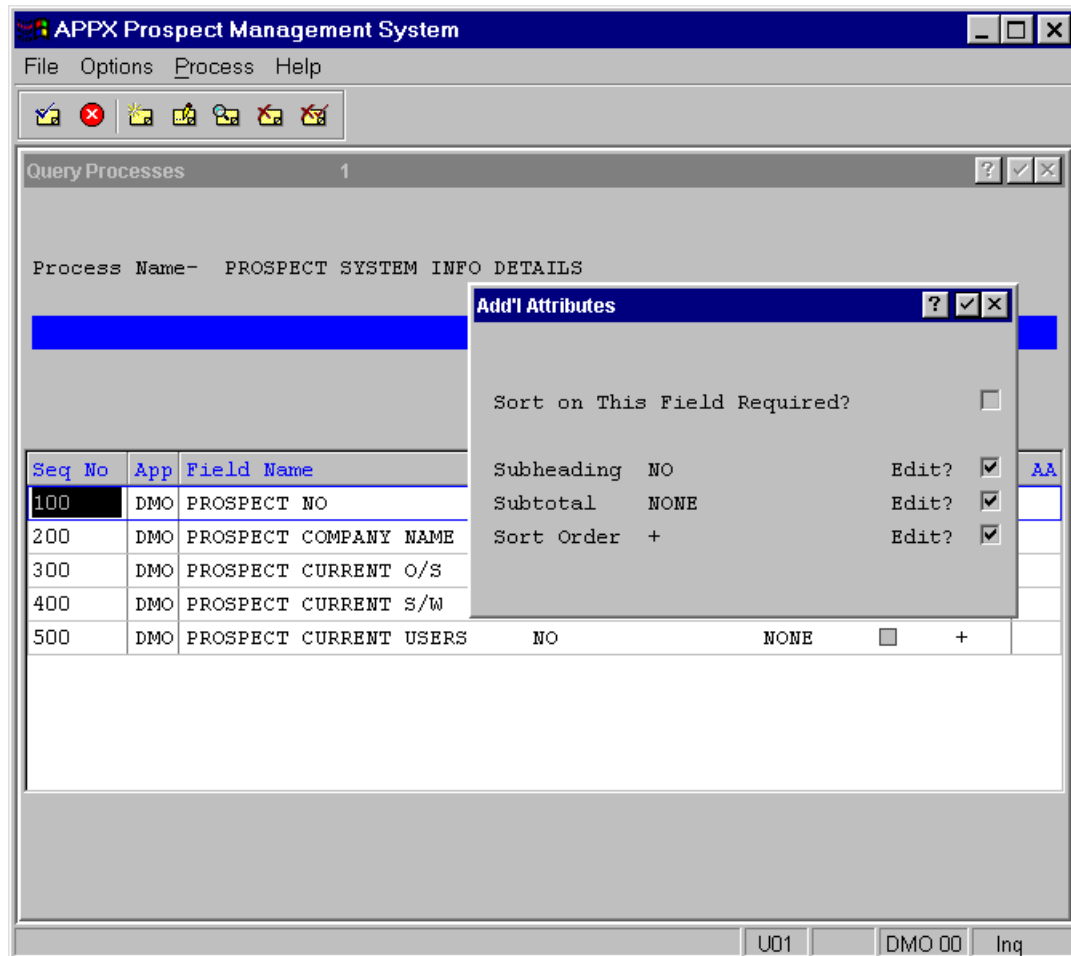

Figure E4.9 – Sort Order Additional Attributes
- Click on the **Add'l Attributes** button while your cursor is positioned on a **Sort Order** record. *Figure E4.9* shows the Sort Order **Add'l Attributes** screen that is displayed. This screen allows the designer to control whether or not the user can modify subheading or subtotal specifications at runtime or change whether the records are sorted in ascending or descending order.